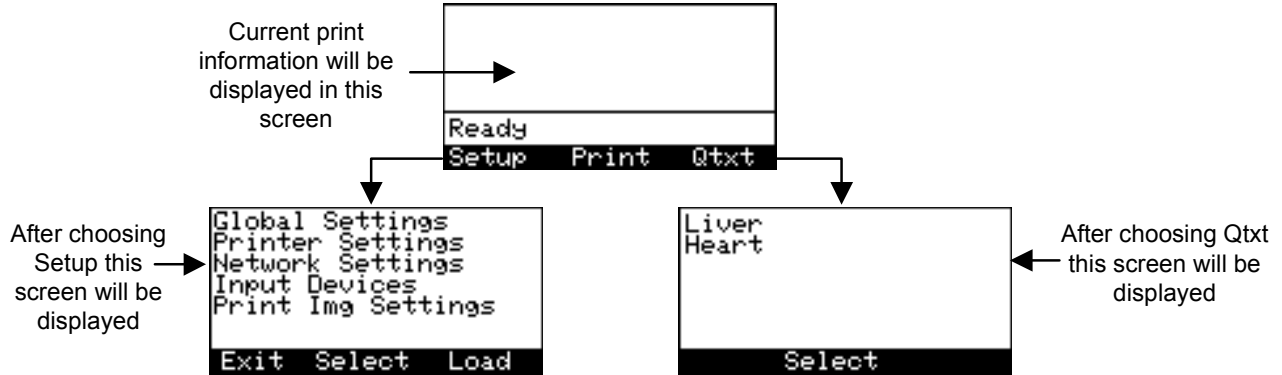

Figure 9 - Initialization and main menu options
- 1.5. Route the ribbon through SlideMate unit as shown in the figure below. In the main setup screen use the **Load** function accessed by the right button (see **Figure 9**). This allows the ribbon take-up reel to be rotated in the take-up direction by hand.
2.1. Access the interface menu to choose the information to be printed (see **Figure 9**). To format the information use **Print Img Settings**. Refer to section 3 for more details regarding the information about data and text formatting.